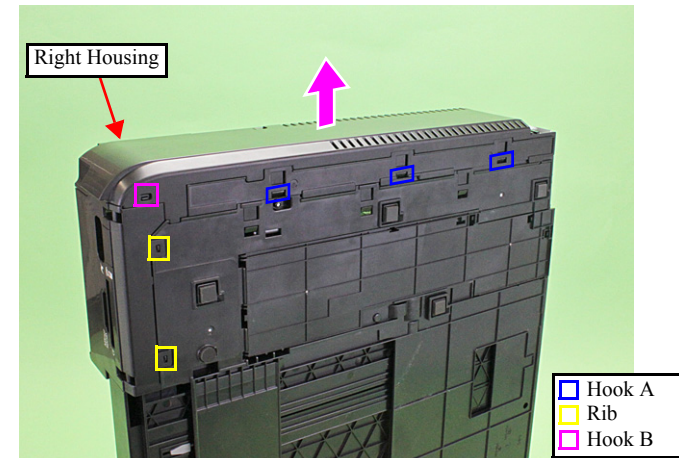

Figure 9-20. Removing the Right Housing (2)
3. Release the hooks (x2) of the Housing Front Right on the bottom of the printer and dowel (x1) of the Base Frame, and remove the Housing Front Right. (See Fig. 9-20.)